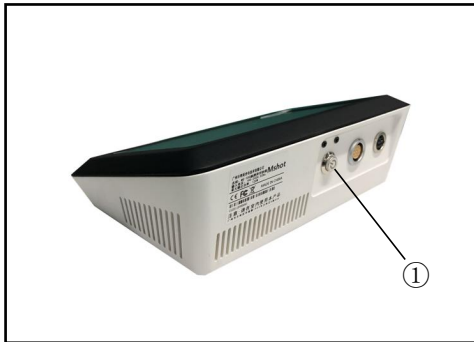
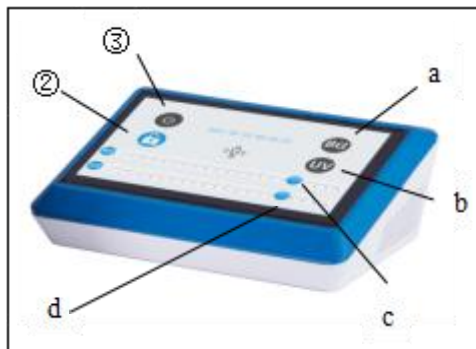

Figure 4
Figure 5
3.1. Controller diagram (Figure 4, Figure 5)
① power button
② lock screen switch
③ main switch
3.2. Light source usage steps (Figure 5)
3.2.1 First, as shown in Figure 5, press the main switch ③, then touch the B/G switch a, and adjust the brightness of the B/G band light source through the B/G brightness rod c. The B/G digital display range is 0 -100;